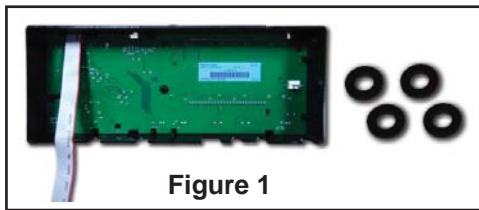

Figure 1
**Step 1.** Inside the new control head package, locate the new control head and spacers. See **Figure 1**